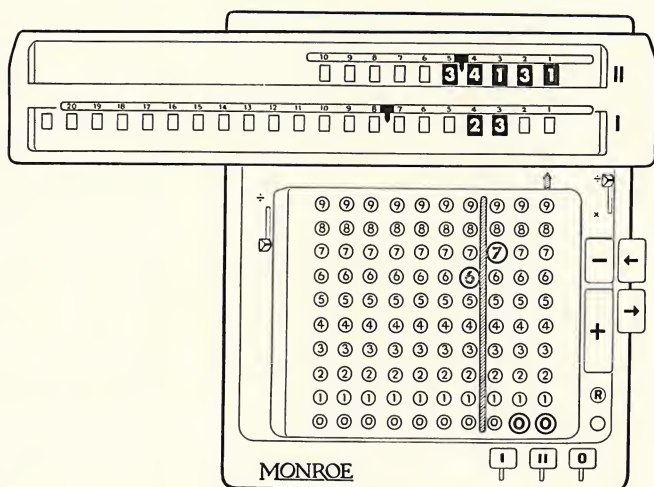

Figure 12
Step 7—The result, 3.4131, appears in the upper dials in correct position with relation to the decimal point which was previously set. (Figure 12). The .0002300 in the lower dials is the remainder. Clear entire machine; as the keyboard is cleared the shift lever returns to the \times position.